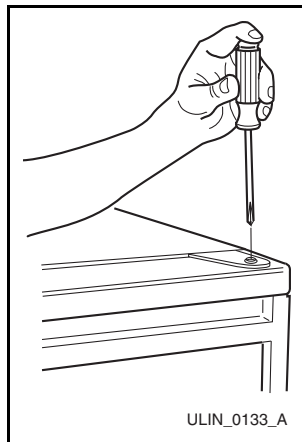

Figure 15
2. Remove the top hinge pivot pin with a Phillips screwdriver (**Figure 15**) and lift door off bottom hinge pin. Be careful not to lose the door closer insert sets.